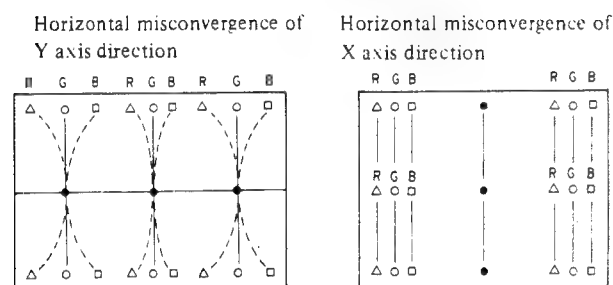

Figure 21
This is a simple explanation of the convergence system in Super fine Trinitron picture tube used in this model. The Deflection Yoke (DY) used in this model generates an almost uniform magnetic field in order to get fine beam spot size. Accordingly basically misconvergence of horizontal direction as shown in Figure 21 is generated on the picture screen.